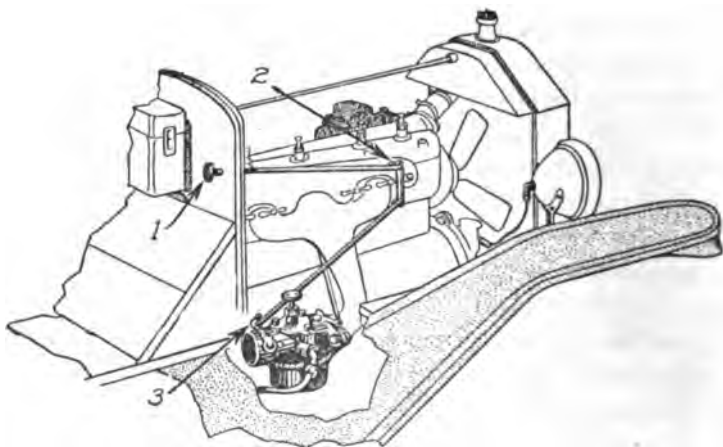

Fig. 389. Replacement of Carburetor Timing Rod on Dash
**Priming Device.** Connect the priming device 1, Fig. 389. Drill a  $\frac{3}{8}$ -inch hole in the dash two inches to the right of the coil box and six inches above the toe board and pass the upper rod through. Connect the lever arm 2 vertically to the foremost exhaust manifold bolt with stationary member in horizontal position; then connect the lower rod 3 to the carburetor priming lever. Work it back and forth several times to make sure that it returns to normal position when released.